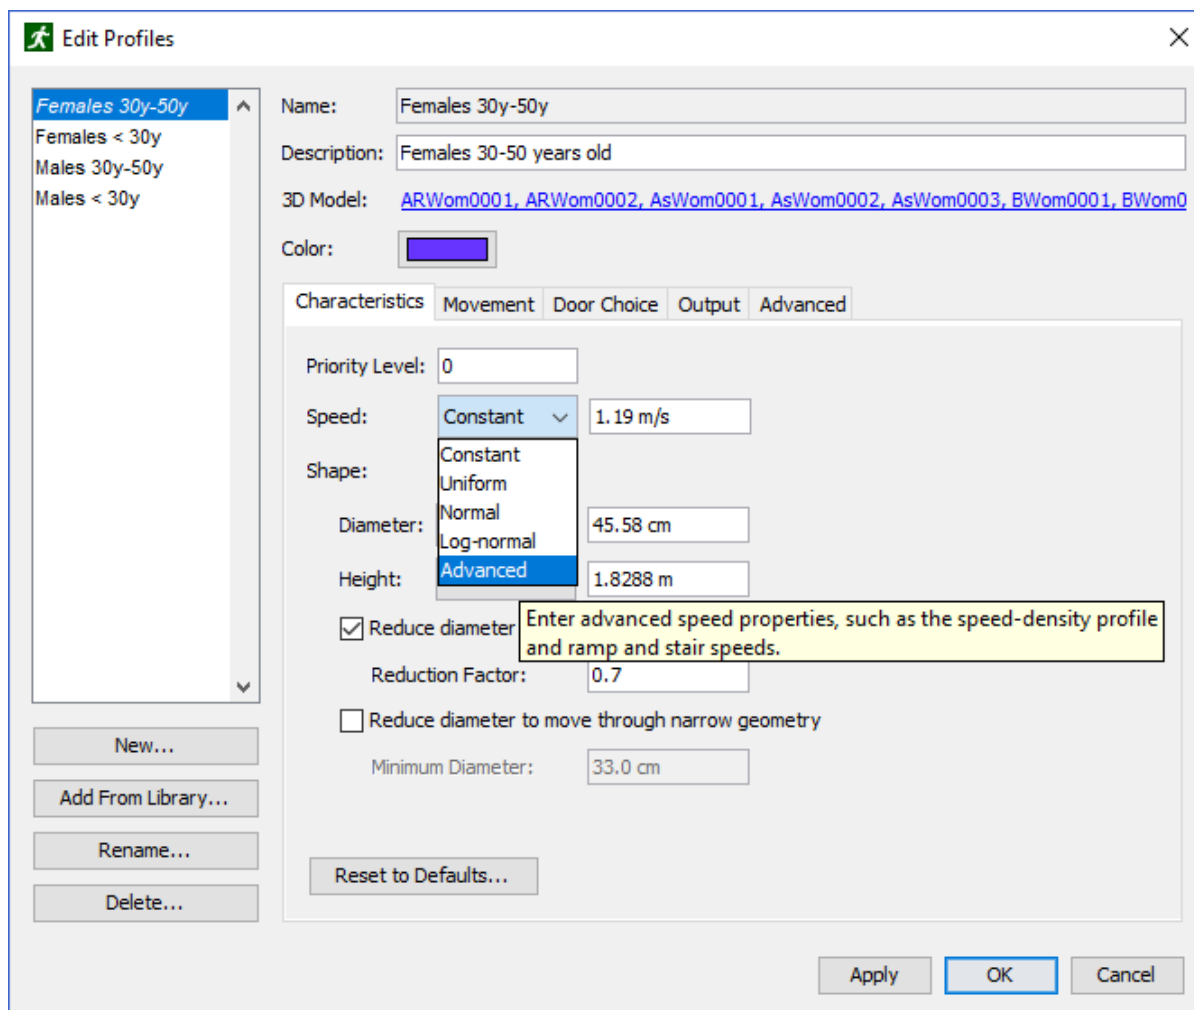

Figure 102. Editing advanced speed properties
3. Next to **Speed**, click the drop-down box and select **Advanced** as shown in Figure 102.